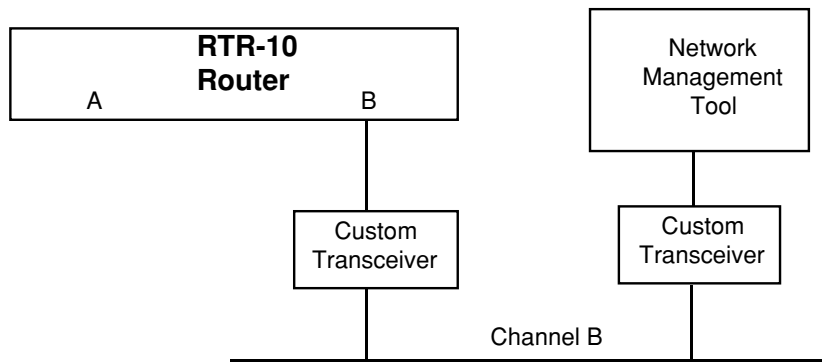

Figure 5.3 Configuring Side A
- 8 Attach the selected custom transceiver to Side B as shown in figure 5.3, leaving the Side B transceiver ID set to 30.
- 9 Attach a network services tool with a compatible custom transceiver to Channel B as shown in figure 5.3.